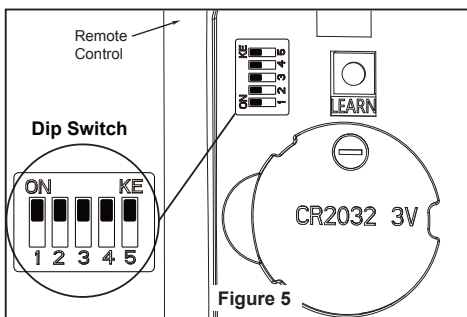

Figure 5
5. To set the remote code same positions as the receiver with a small screwdriver or ball point pen (neither included), slide dip switches firmly up or down. (Figure 5)